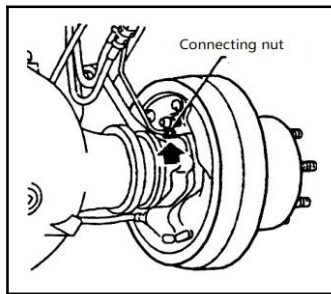

Figure5-1
- 5) Remove the brake connection nuts from the brake subpumps of the left and right brakes (see Figure 5-1).